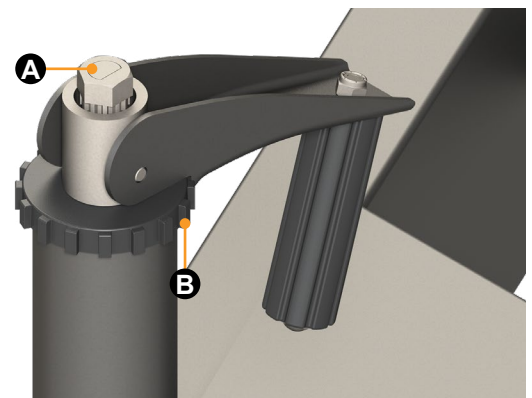

Fig.4
1. Make sure the crank handle is in its stored position (**Fig.4**).
2. After desired tongue jack height is achieved, flip the crank handle over into its stored position (**Fig.4**). The crank handle will engage the ribs of the cap (**Fig.4B**).
4. Make sure the crank handle is in its stored position (**Fig.4**).